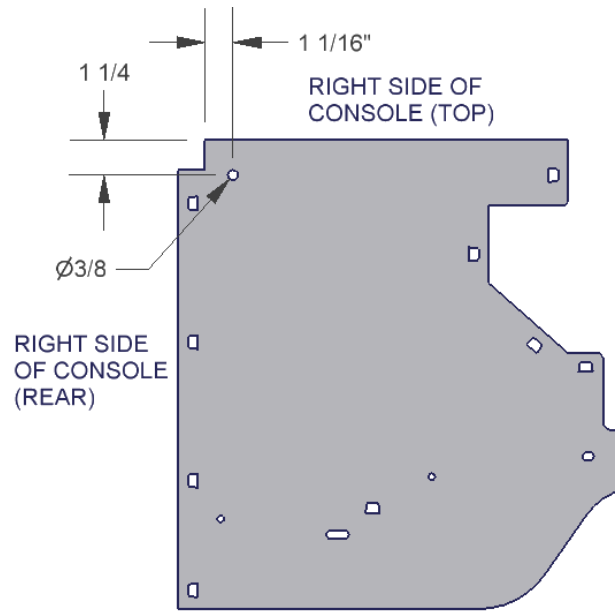

FIGURE 3
4. Mount the #7 Bracket with the #4 Ball stud to the lid using the illustrated hardware. (See Figure 3)
5. Mount the #4 Ball stud in the side with the illustrated hardware (See Figure 3 & 4)